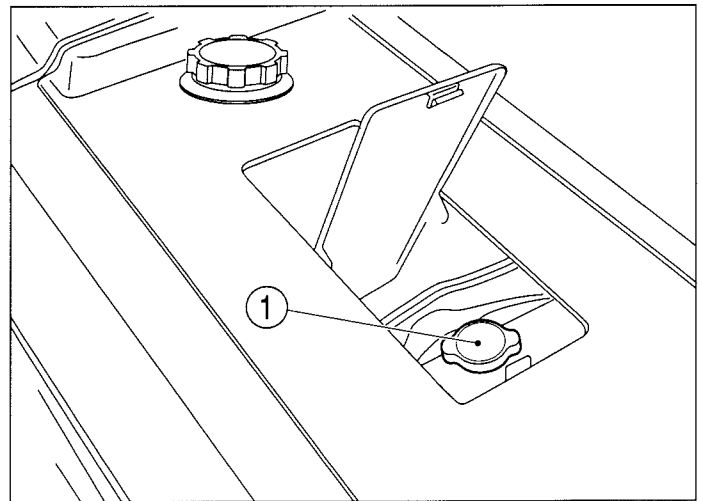

FIG. 81
FIG. 81: Cooling system is filled at factory with anti-freeze solution to protect the engine and radiator to -34°C (-30°F). Cooling level should be maintained to 12 mm (1/2") below the filler neck opening (1). Check coolant annually as a precaution against freezing.